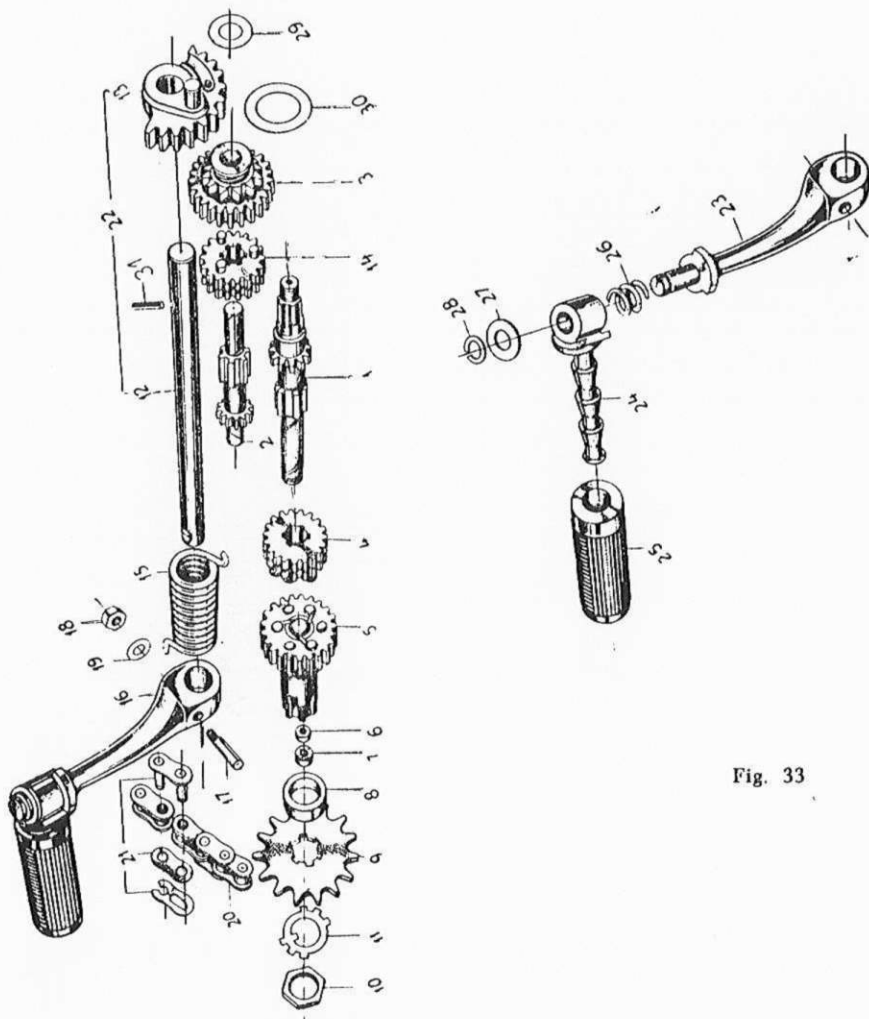
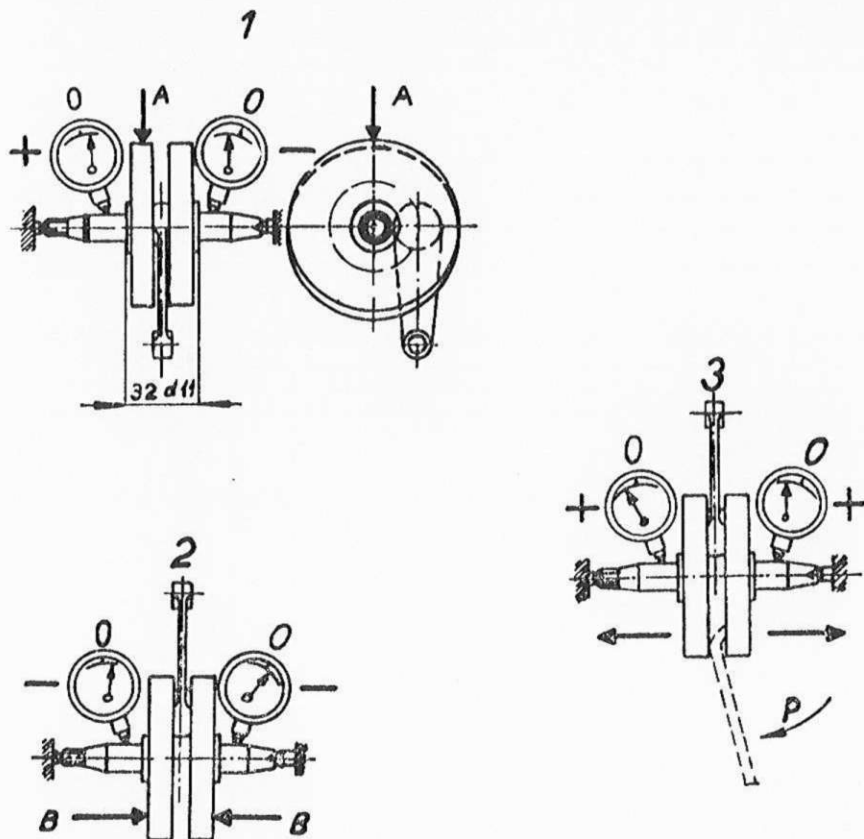

Fig. 33
Fig. 35
Pull out the guide (6, fig. 32) of the shift fork (5). Pull out the main shaft (1, fig. 33), the gear, 20 teeth (4), the shift fork, the countershaft (2) together with a pinion (3) and the gear, 18 teeth (14). Detach the return spring (15) of the start shaft (12) from the catch in the R. H. box half and disengage the start with segment (13). From the upper part of the R. H. box half unscrew the M6×18 screw (13, fig. 32) fixing the gear shift automatic (1) with R. H. box half and remove the automatic. Dismantle the secondary transmission gear and pull out the gear with hub (5, fig. 35) by knocking with a wooden hammer.
it jointly onto the crank pin which is then pressed onto the R. H. flywheel. Insert the needles (7) into the cage and carry out the pressing of the crank mechanism. On pressing the crankshaft with help of angle straighten the R. H. (2) and L. H. (3) halves of the crankshaft so as to keep the approximate alignment of both crankshaft parts. Having pressed-in the shaft, center it in the following way (fig. 35):